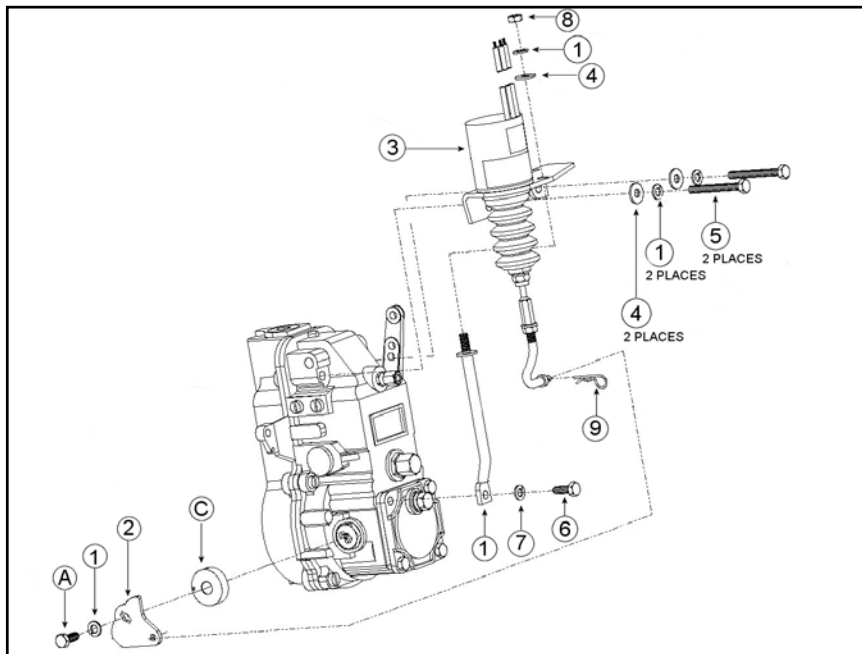

Figure 3. Parts View
Refer to **Figure 3**.
1. Install the spring cover (C) removed previously.
2. Install the new run/stop lever (2). Note the proper orientation of this piece as shown in **Figure 3**.
3. Install the lockwasher (1) and screw (A) that was removed previously. Torque screw to 5-7 Nm (3.5 to 5 ft-lb).
4. Install the solenoid/bracket assembly (3), screws (5), lockwashers (1), and flatwashers (4), to the pump. Torque screws to 5-7 Nm (3.5 to 5 ft-lb).
5. Slip the hook-shaped end of the solenoid linkage (the length setting is factory preset) through the hole in the new run/stop lever. Attach spring clip (9) to lock the solenoid linkage rod to the run/stop lever.
6. Install support rod (6) and insert the threaded end through the hole on the solenoid/bracket assembly.
7. Insert the bolt (7) and lockwasher as shown in **Figure 3** and torque the bolt 5-7 Nm (3.5 to 5 ft-lb).
8. Slip the flatwasher, lockwasher, and hex nut (8) onto the support rod. Note that the support rod fits through a certain mounting hole in the solenoid/bracket assembly. Tighten the hex nut until the solenoid/bracket assembly is flush against the face of the washer on the support rod.